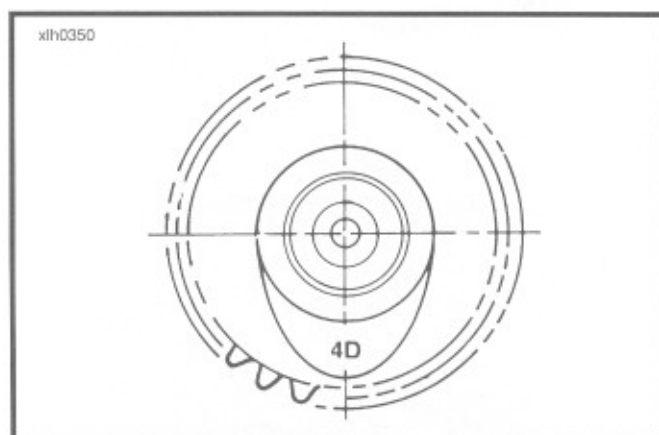
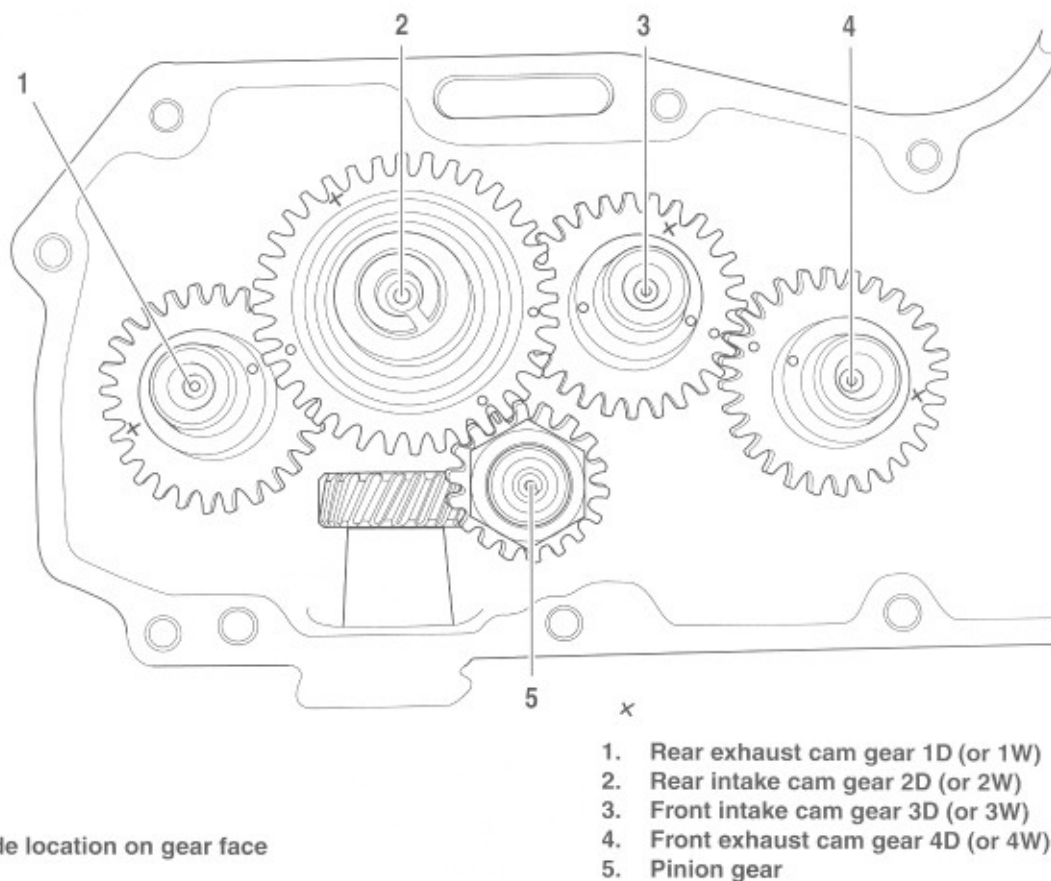

Figure 3-60. Cam Identification
Figure 3-62. Cam and Pinion Gear Color Code Location and Timing Mark Indexing
See Figure 3-60. Cam lobes are stamped with a number (1, 2, 3, or 4) followed by letter "D" or "W." The number identifies the cam location/function; the letter "D" or "W" indicates model year application:
are replaced, always use the same color code as found on gears being replaced to ensure that the gear operation remains as quiet as possible. See Figure 3-62 for location of cam and pinion gear color codes.
- See CAM AND PINION GEAR IDENTIFICATION, INSPECTION, AND SELECTION, and Figures 3-60 and 3-62. Liberally apply engine oil to bushings, shafts, and gears. Install all cam gears into bushings of right crankcase half, properly aligning timing marks of cam gears and pinion gear as shown in Figure 3-62.